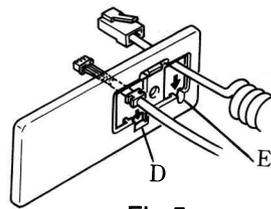

Fig.5
- Fit the cord bush on the panel cable into the front panel (Fig.5-D), fix the panel cable, and install the cover. (Fig.4-A)